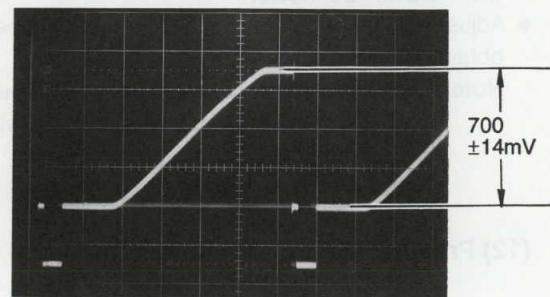

Fig. 4-9
- Adjust VR26 so that the white level of the RAMP signal becomes 700 ± 14 mV as shown in the Fig. 4-9.